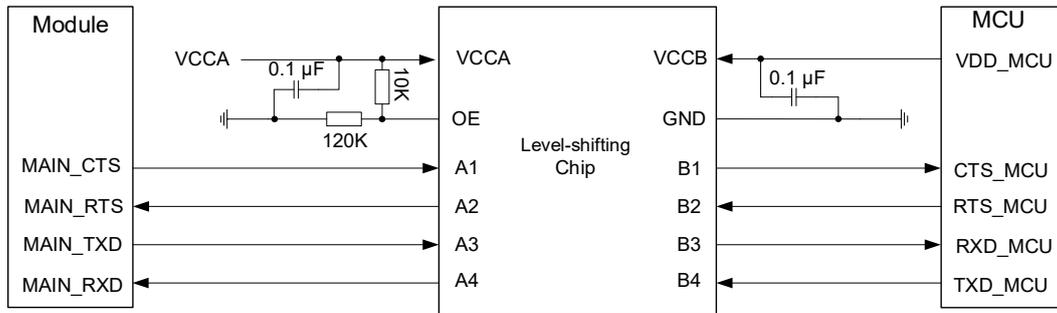
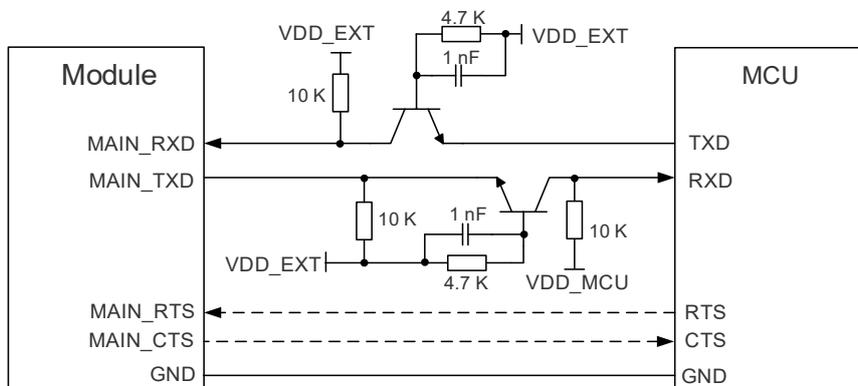

Figure 20: Reference Design of UART with a Voltage-Level Translator (Main UART)
Figure 21: Reference Design of UART with Transistor Circuit (Main UART)
3. The level-shifting circuits (**Figure 20** and **Figure 21**) take the main UART as an example. The circuits of the debug UART and the auxiliary UART are connected in the same way as the main UART.